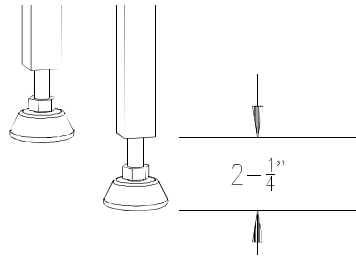

Figure 2-17. Long Hand-Feed Leveling Pads
2. Make sure the hand-feed conveyor's leveling pads are set at approximately 2-1/4" as shown in Figure 2-17.